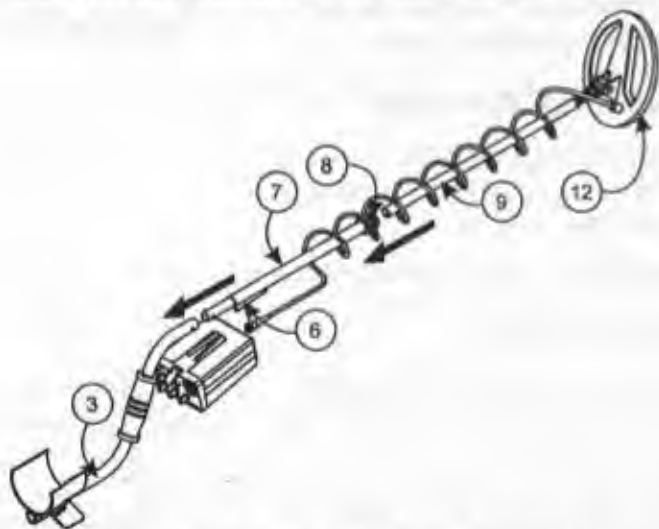

Figure 3 - Completing the shaft assembly
- Slide the intermediate shaft (7) into the upper shaft (3). The black "V" clip (6) must be facing down along the foam handgrip section of the upper shaft (see Figures 3 and 4).